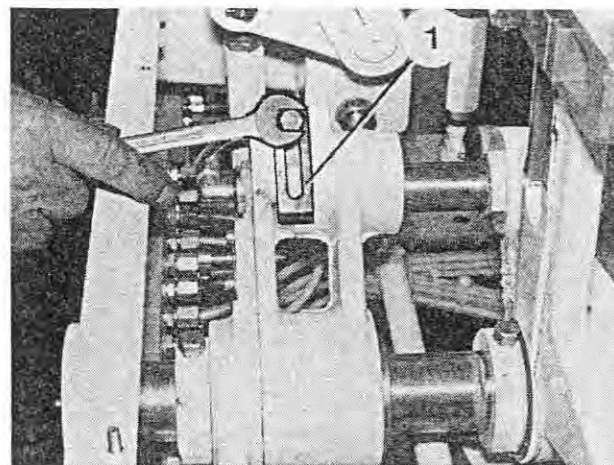

Fig. 173
4. Loosen the locking screw. Slip the centering piece into the recess of the catcher axle (Figure 173/1) and tighten the locking screw.